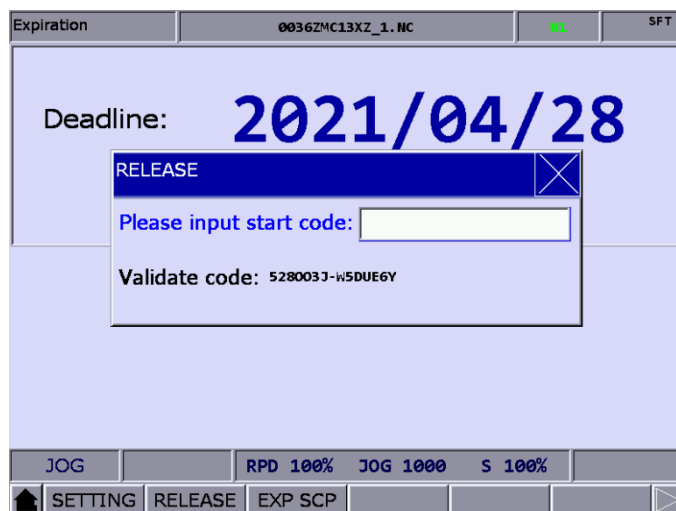

Figure 9.5.4.3
- (1) Press **DGN** to enter the DGN screen.
- (2) Press **PWD** to switch to the function bar of password setting.
- (3) Press **EXPIRE** to display the expiration information.
- (4) Press **RELEASE** and a dialog box appears for you to enter the activation code as shown in Figure 9.5.4.3.
Note: after the time limit is removed, no expiration date is displayed in the **Deadline** field as shown in Figure 9.5.4.1, which means no time limit is set for the system.